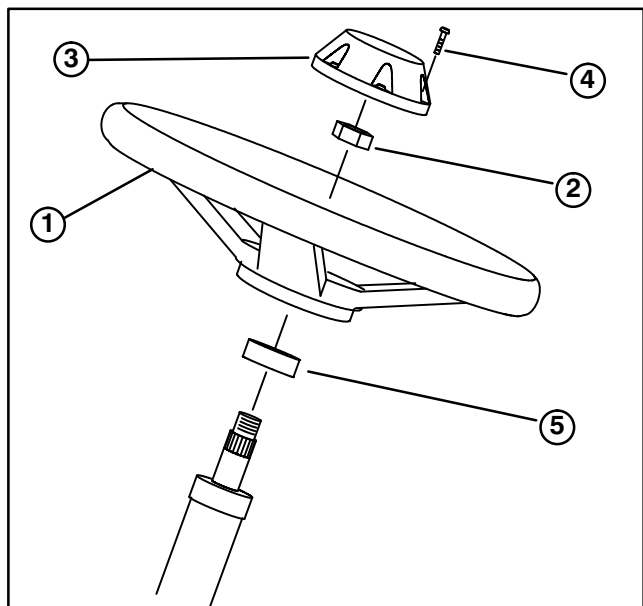

Figure 1
1. Remove steering wheel from seat plate. Remove screw and cap from steering wheel (Fig.1).
2. Remove jam nut from steering shaft. Make sure foam seal is on steering shaft (Fig.1). Slide steering wheel onto steering shaft.